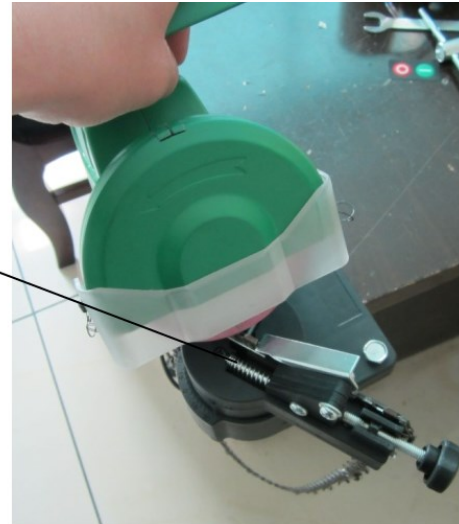

Figure 8: Screw (45)
8. Lock the chain in the **fixing disk (50)** by turning the **screw (52)** (see **fig. 8**). The **screw (52)** should be installed so that it can easily be released and tightened. You will need to release it each time you move to the next link, and tighten it to sharpen the link.